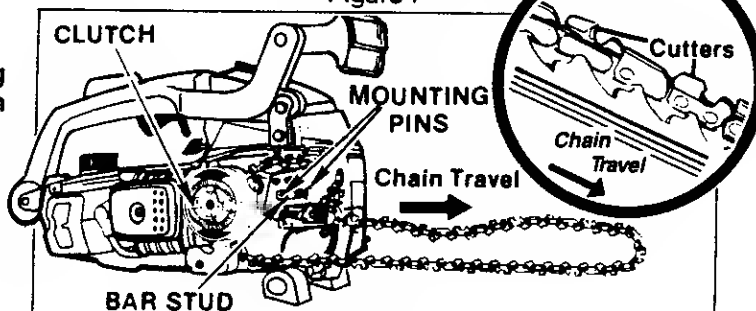

Figure 8
3. Hold chain with cutters facing as shown in Figure 8.
4. Place chain over and behind the clutch drum, onto the sprocket. Figure 8.